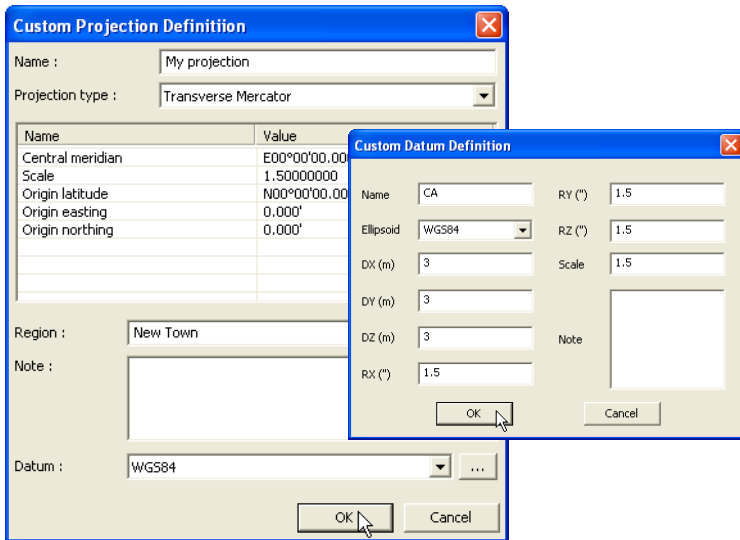

Figure 9-16. Create Custom Projection and/or Datum
5. Click **Ok** to save the custom projection (Figure 9-16).